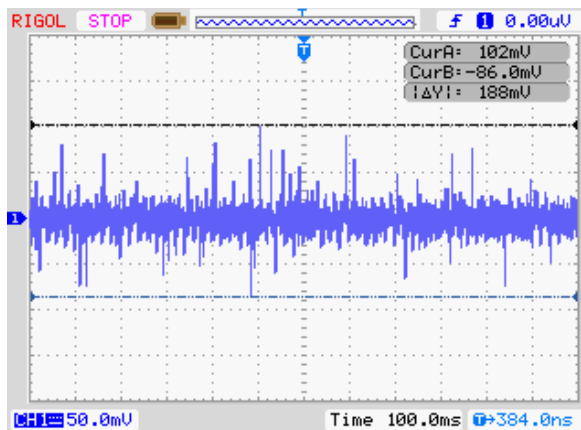
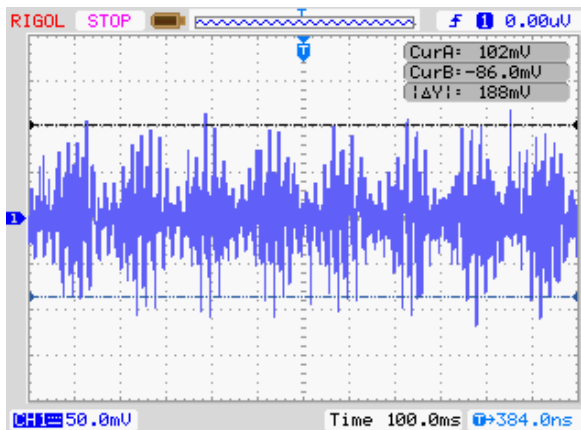

figure 3: noise level @ volume min
figure 4: noise level @ volume max
The peak-to-peak measurement with the markers of the oscilloscope is almost equal between volume = min (see figure 3) and volume = max (see figure 4); although there is clearly an increasing of 50Hz hum hearable! Reason for that is: the peak-to-peak level is not dominated by the hum, but by high radiofrequency (RF) peaks, produced by the digital 115V PWM frequency converter that I use to generate the 60Hz for the tonewheel generator!